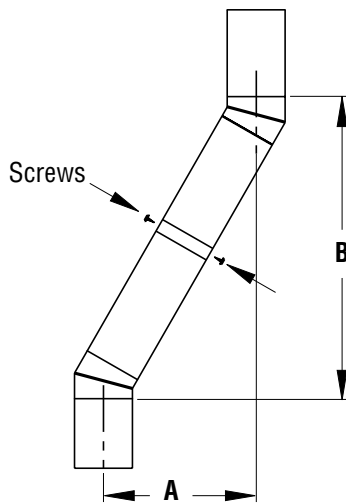

Figure 9 - Elbow Offset
installing double wall snap-lock chimney together, it is important to assure the joint between the chimney sections is locked. Check by pulling chimney upward after locking. The chimney will not come apart if properly locked. It is not necessary to add screws to keep the chimney together (exception - see Figure 9, page 9).
4. All pipe connections between offset and return must be secured with two screws on outer pipe only (see Figure 9, page 9). Do not penetrate inner stainless.